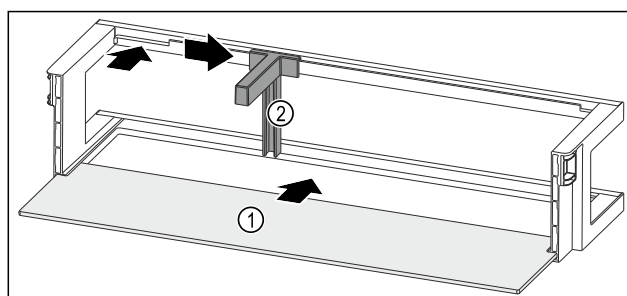

Fig. 152 Door rack with shelf
- Push the shelf Fig. 152 (1) into the side recesses.
- Insert the bottle holder Fig. 152 (2) in the recess.
- Push the bottle holder Fig. 152 (2) to the desired position to the side.